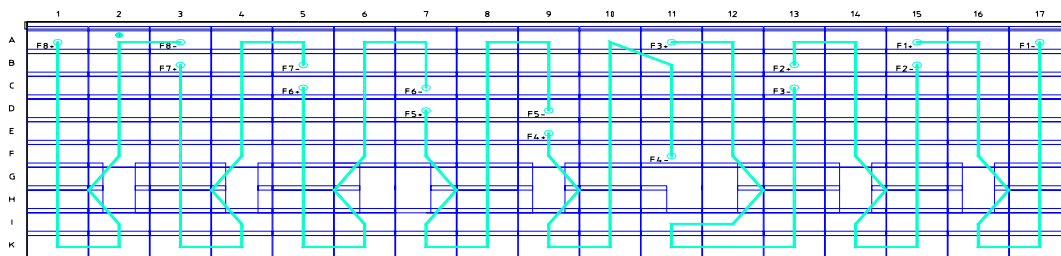

Figure 4 Example of a field distribution
- Field distribution - see figure 4.